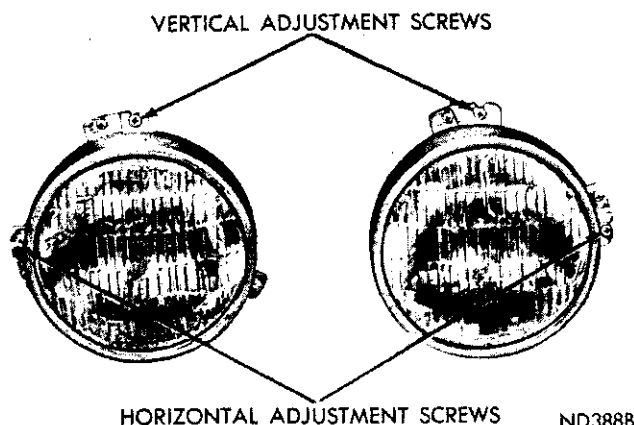

Fig. 5—Headlight Adjusting Points
(1) With pointer of **RIGHT-LEFT** scale still set **2-RIGHT**, sight through aimer viewing port. **Make sure that line of sight is perpendicular from eye to viewing port of aimer and that target image is centered in viewing port of aimer.**
(2) While sighting through viewing port of aimer, turn horizontal adjusting screw on headlight until split target image line merges into one unbroken line. To remove backlash, be sure to make a final adjustment by turning headlight horizontal adjusting screw in a clockwise direction, (Fig. 5).
(3) Make horizontal adjustment on other side of vehicle in same manner.
Remove headlight door. Adjust top adjusting screw for vertical adjustment, adjust side screw for horizontal adjustment (Fig. 5).